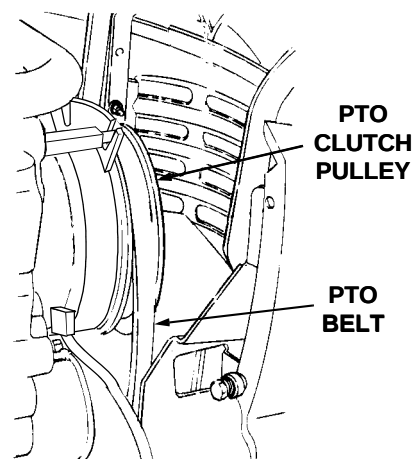

Figure 45
5. Open the tractor hood and remove the forward end of the PTO belt from the PTO clutch pulley on the front of the engine (Refer to Figure 45).